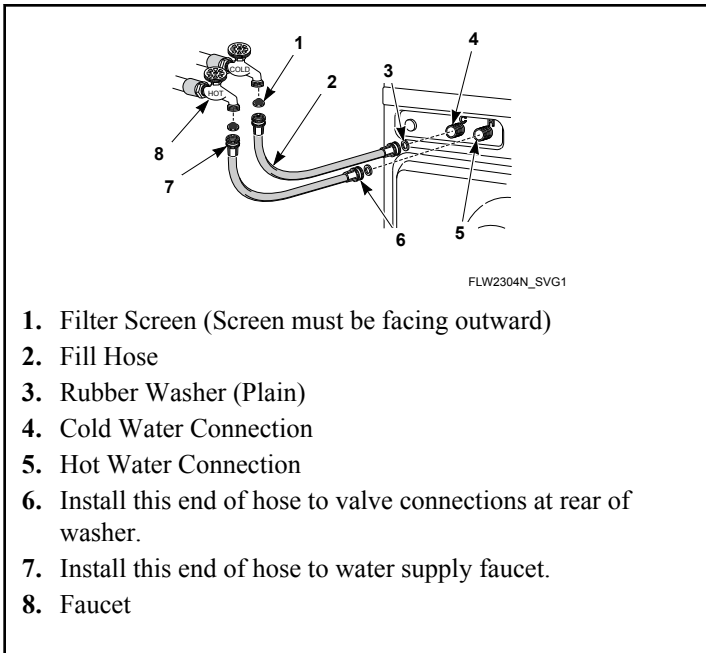

Figure 7
2. Install them into each end of the fill hoses as shown in *Figure 7*. The screen must be facing outward.
5. Screw hose couplings from other end of hoses onto the water mixing valve until they are finger-tight. Make sure the red color-coded hose from the hot water faucet goes to the water mixing valve marked “H” and the blue color-coded hose from the cold faucet goes to the valve marked “C”. Refer to *Figure 7*.